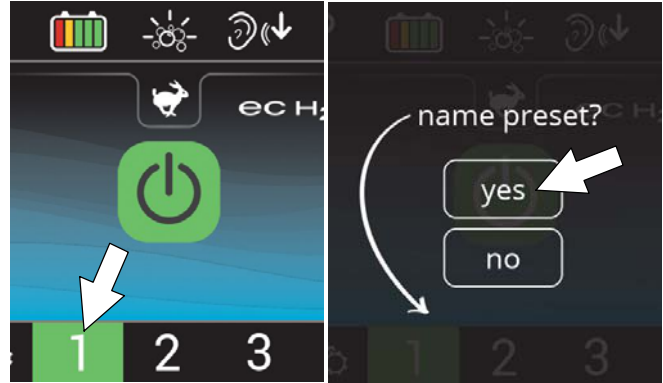

FIG. 65
2. Then press and hold a zone button until a screen prompts you to name the new preset zone. Select “yes” to name the preset zone (Figure 65).